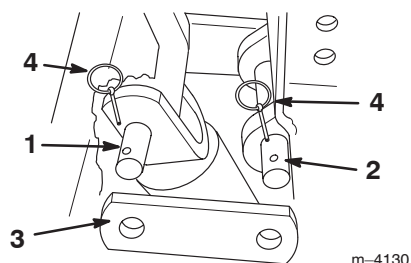
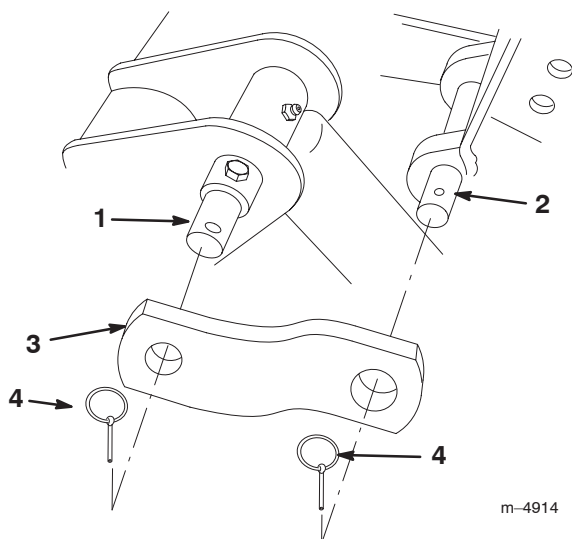

Figure 10
Figure 11
8. Slide the two links on each end of the tilt cylinder pin and the backhoe link pin and secure them with two lynch pins (Fig. 10 for Dingo 200/300 Series traction unit or Fig. 11 for Dingo TX traction unit).